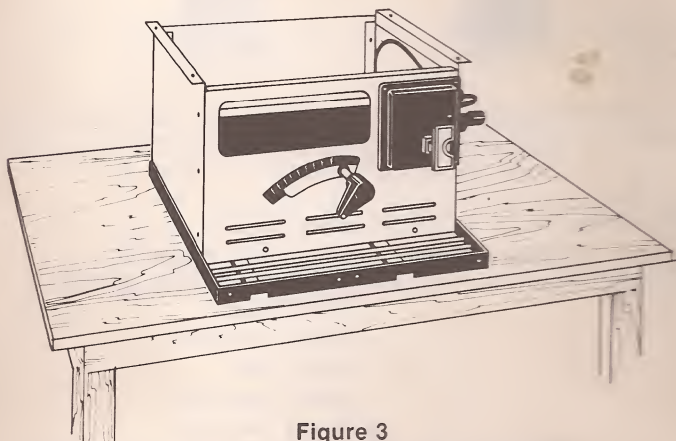

Figure 3
- A. Lay the Table Saw **TOP DOWN** on a smooth, flat surface with the switch facing you as shown in **figure 3**.